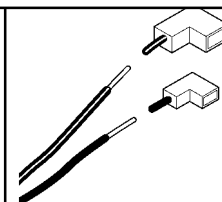

Figure 18
- Cut off the “L” terminals from the switch leads **on the remote control receiver** and remove insulation from approximately 6mm (1/4in) at the ends of the leads. See figure 18.